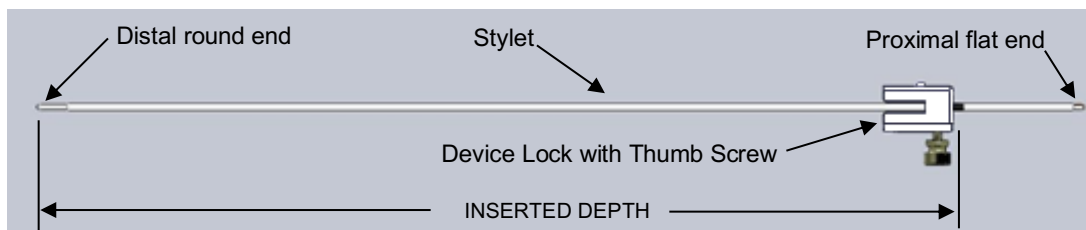
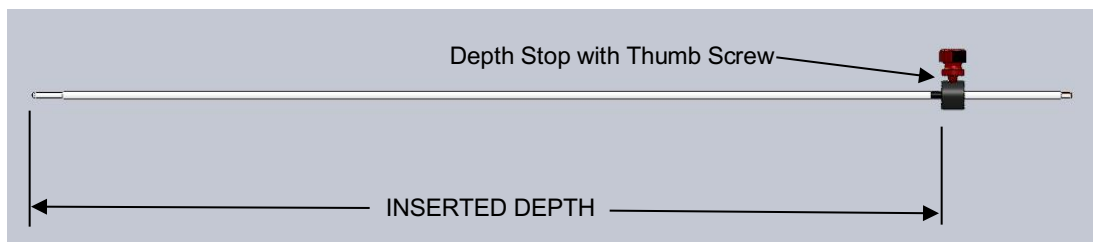

Figure 33: Device Lock attached to the Stylet
Figure 34: Stylet with Depth Stop attached to the Insertion Depth
4. Position the Device Lock on the depth mark on the Stylet and tighten the thumb screw. The inserted depth of the Stylet is defined by the proximal side face of the Device Lock to the distal tip of the Stylet. Confirm the length using the Ruler. **See Figure 33.**
5. When utilizing the Depth Stop, the inserted depth of the Stylet is defined by the distal side face of the Depth Stop to the distal tip of the Stylet. **See Figure 34.** Slide the Stylet into Device Lock until Depth Stop rests on top of Device Lock. Then tighten Device Lock. Confirm the length using the Ruler.
6. Set the inserted depth on the device from the distal end of the device to the top of the Device Lock using the Ruler. Lock the device to the Device Lock with the thumb screw. Verify the measured inserted depth. Alternately, the bottom of the Depth Stop can be located at the appropriate position and locked into place on the device with the thumb screw prior to inserting the device into the Device Lock. **See Figure 33 and Figure 34** for similar placement of the Depth Stop or Device Lock onto Stylet.